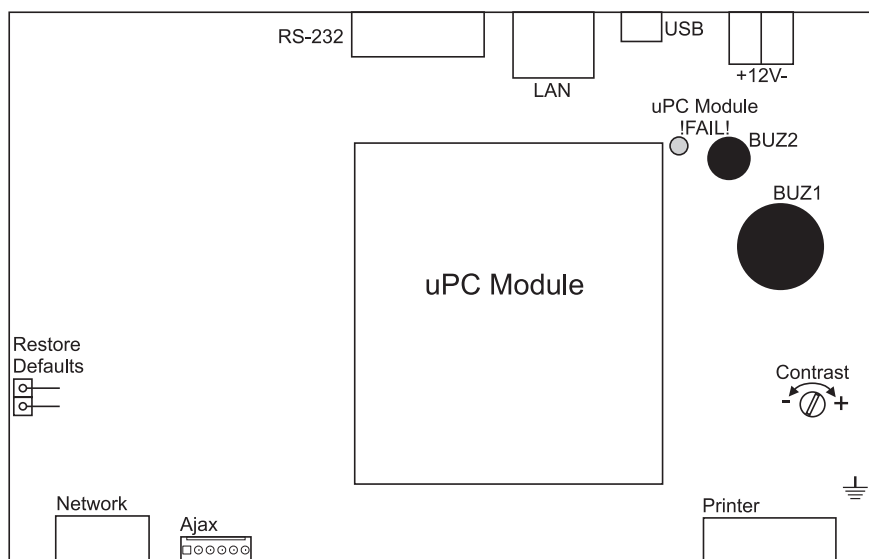

Figure 19. Main Board with integrated Control Module.
- The serial interface cable is equipped with one male DB9 connector, wired according the diagram below, and connected to the "Printer" connector on the indication board (Figure 19).